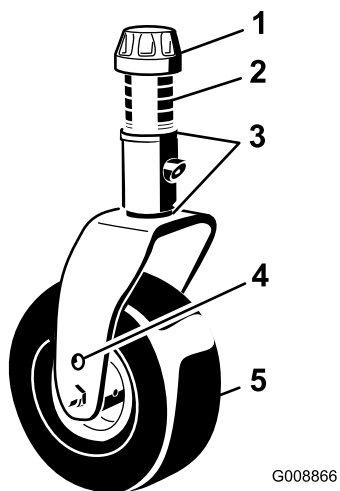

Figure 27
3. Adjust the shims (3 mm or 1/8 inch) on the front caster fork(s) to match the height-of-cut decal (Figure 27); refer to Adjusting the Mower-Deck Pitch (page 75).